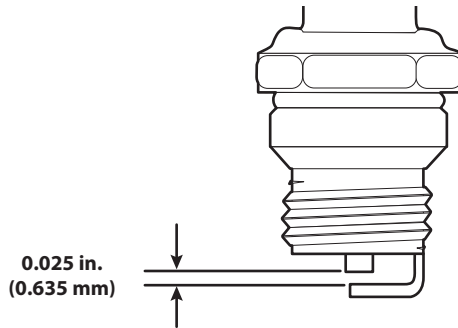

Fig. 23
4. Use a feeler gauge to set the air gap at **0.025 in. (0.635 mm)** (Fig. 23).